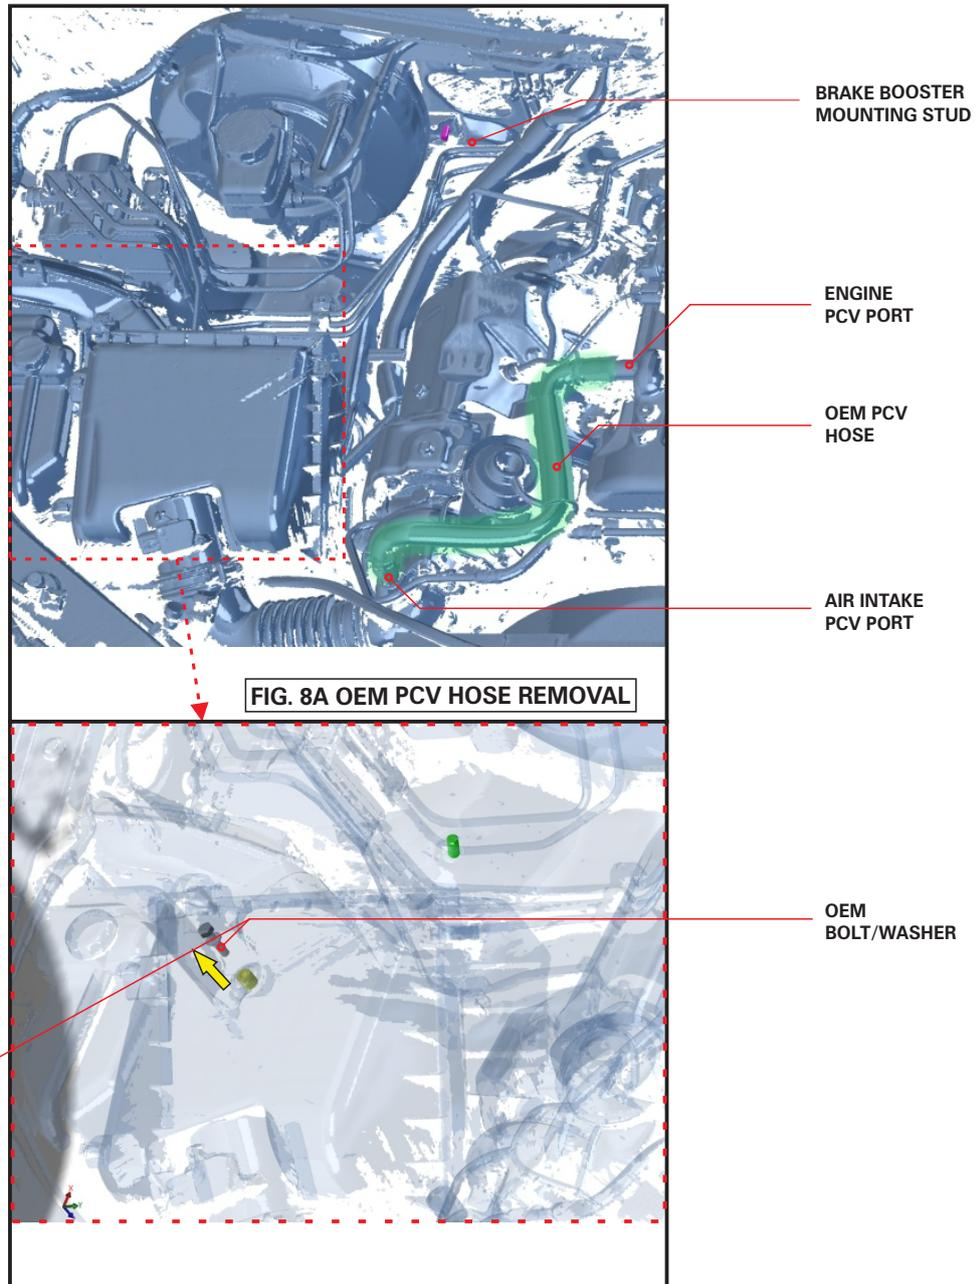

FIG. 8b AIRBOX MOUNTING OEM BOLT/WASHER REMOVAL
4. Remove the rear airbox mounting OEM bolt & washer shown in FIG. 8b.